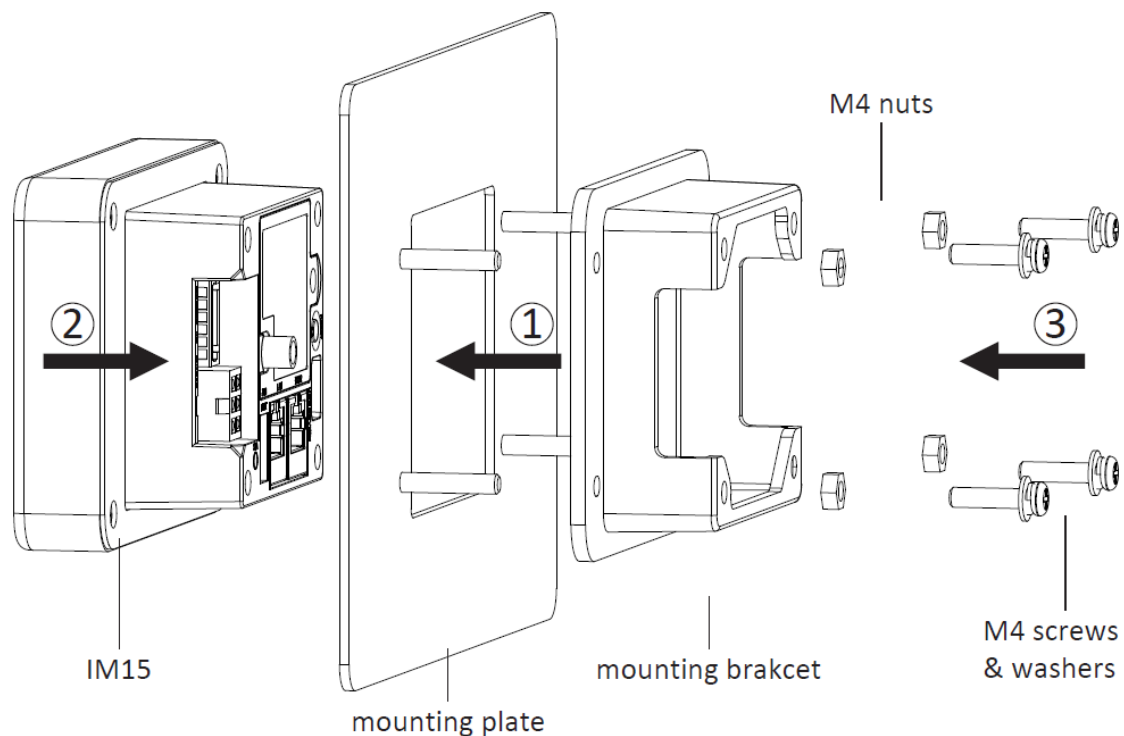

Figure 7: device installation
- 1) The back face of the installation should have four stud bolts corresponding to the mounting points located on mounting bracket. Slide the mounting bracket into place with the orientation shown in figure 7 and then fix it in place with four M4 nuts.
- 2) Slide the IM25 unit into place with the orientation shown in figure 7. The back portion of the device should rest securely inside the mounting bracket.